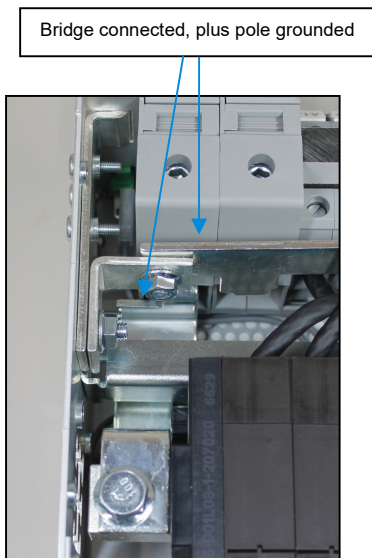

Fig. 5 - Plus pole grounded (Group A)
- Condition as delivered: Bridge disconnected (Grounding bridge connection see fig. 5, 6).